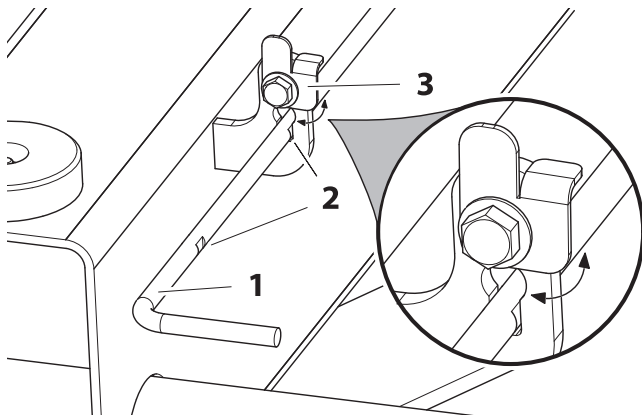

Figure 2-2. Safety Prop Actuator Rod
- Rotate the rod keeper plate and release the safety prop actuator rod at the front of the machine. (See Figure 2-2.)